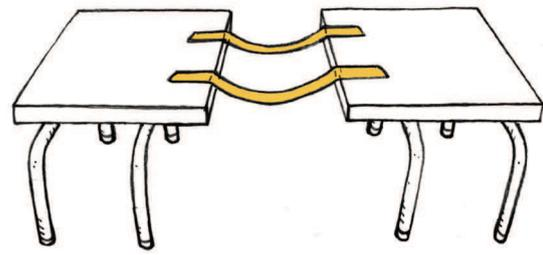

Figure 17
6. Do you think this suspension bridge in Figure 17 will be strong enough to support a small bird walking on it?